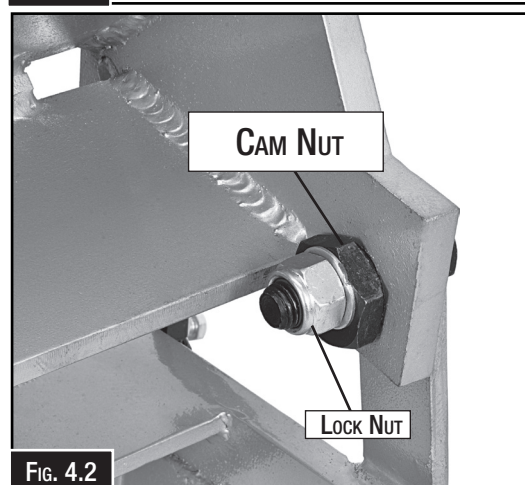

FIG. 4.2
3. Loosen the hex head nuts that are securing the setback cams on both ends of the machine. (Fig. 4.2).